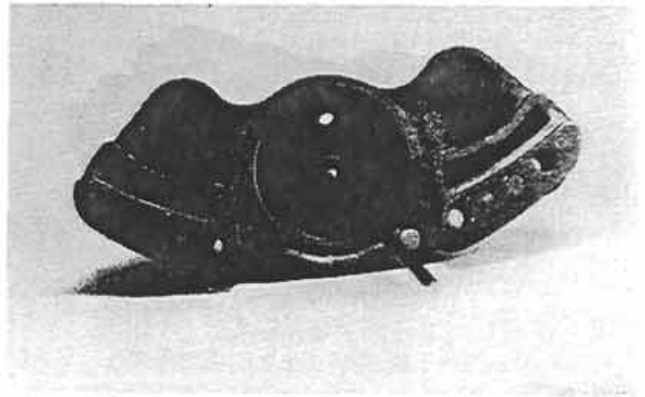

Figure 14:
1. Lubricate the bores of the piston side casting with brake fluid (DO NOT USE OIL OR GREASE). Carefully insert a new O-ring in the groove of the retractor pin bore (Fig. 14).